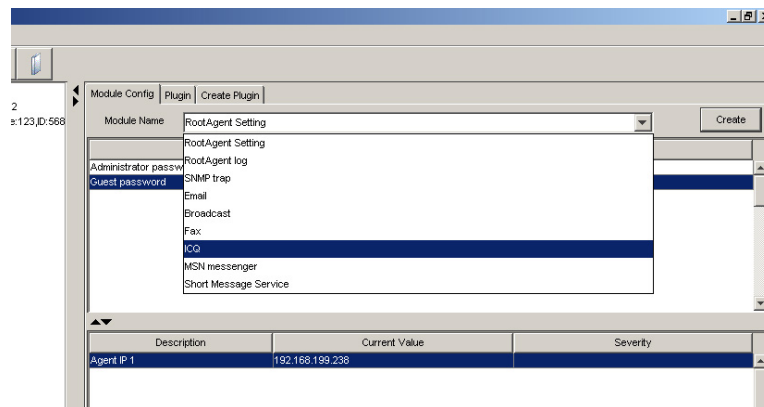

Figure 4-11: Module Name Pull-down List
**Step 8.** The **Module Configuration** window will display on the right of the **Configuration Client** User Interface. You may now start configuring event receivers under each notification method window. Click on the **Module Name** pull-down list to display all the configuration options. (See *Figure 4-11*)